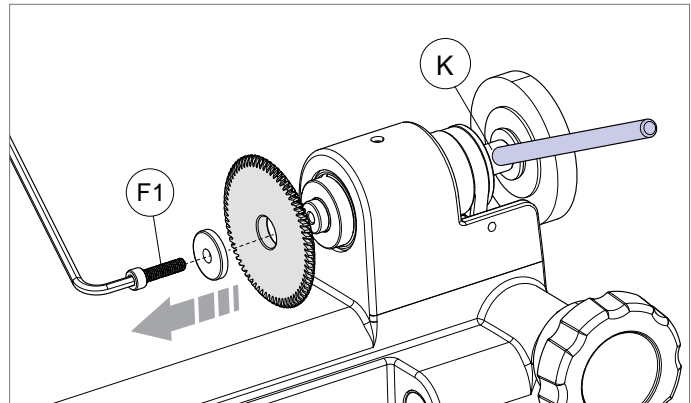

Fig. 31
- 2) Slot the locking rod (provided) into the hole (K) of the cutting tool shaft (Fig. 31).